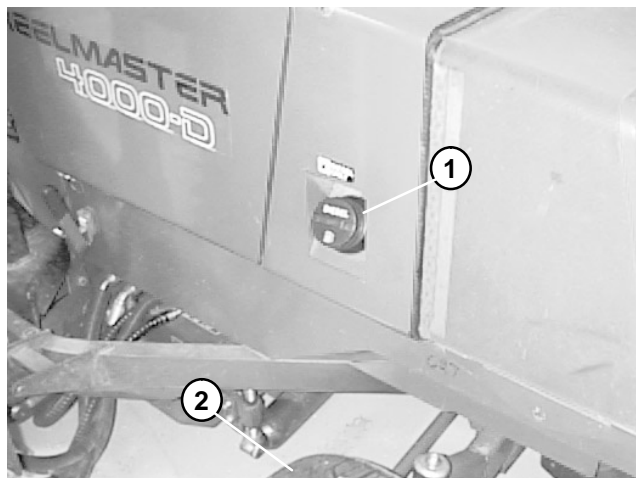

Figure 6
2. Remove fuel tank cap (Fig. 6).